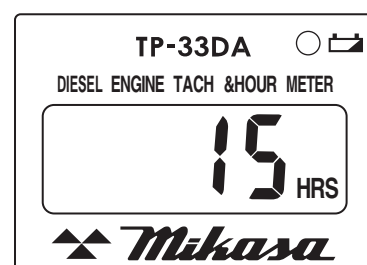

Figure 15. Hour Tachometer (Cumulative Time)
4. When the engine is stopped, the hour tachometer always shows "cumulative time" (Figure 15).